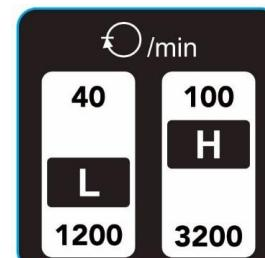

Fig 14
The speeds of the lathe are controlled by the variable speed select knob (D) as well as the position of the belt on the pulleys (Fig 14).